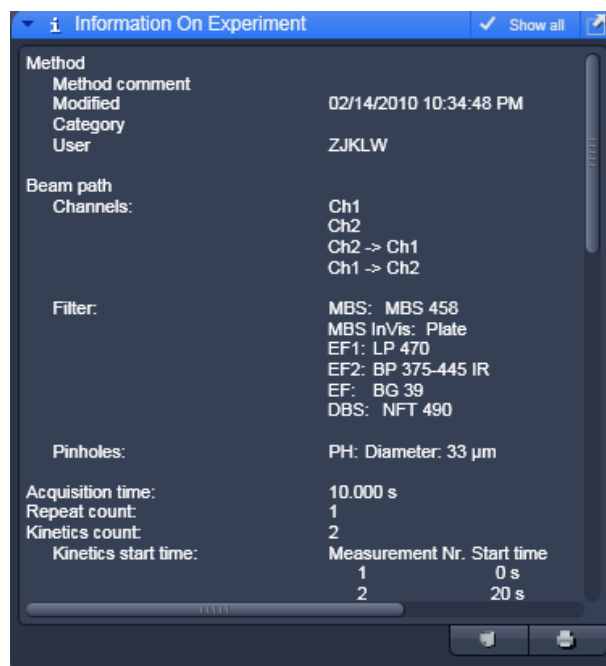

Fig. 307 Information on experiment panel
- Click on the **Information on Experiment** tab to display a detailed description of the highlighted method including name, comments, configurations and parameter settings (META data) (Fig. 307). Click a second time to close the information window. The scroll bar can be used to view the complete information.